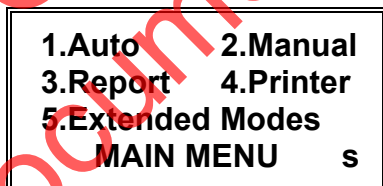

Fig. 1.2: Main Menu
When the key is turned to ON position, the keypad becomes enabled and MAIN MENU displays on the LCD. The unit is now ready to accept the commands. (See figure 1.2)
- Instant Mode functions (MAIN MENU): These include the commands which are commonly executed on a frequent basis like activation, remote site monitoring and printer status checking. There are four instant mode functions in the MAIN MENU. (See figure 1.2)